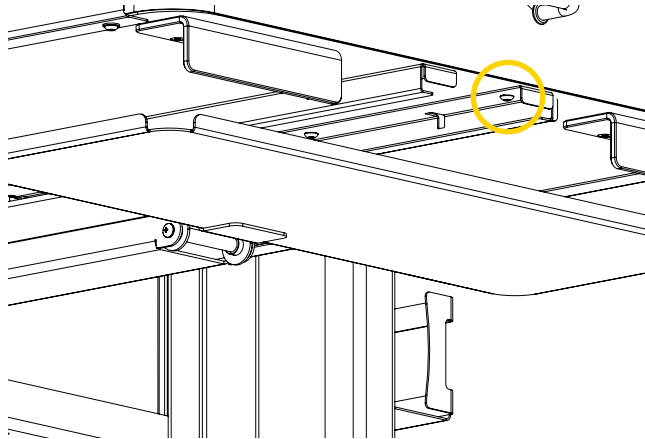

Figure 18: Tightening the screws on the right-hand side of the 2-part sliding mechanism (2 of 2)
- G. Push the tray horizontally to insert it and access the last inner screw (Figure 18), then tighten the screw using a 1/8 in. hex key.